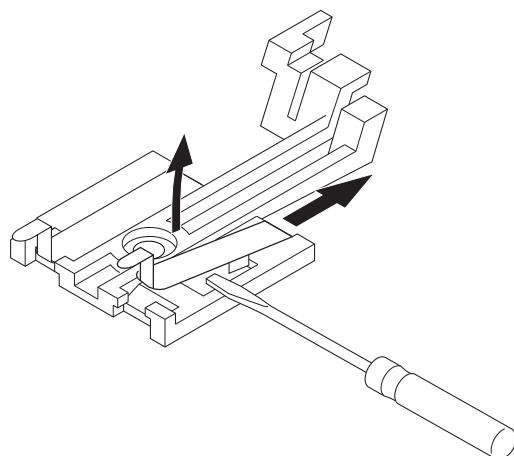

**Fig. 4**
Place a coil spring(①) on the release latch(②) as shown in the figure 4.